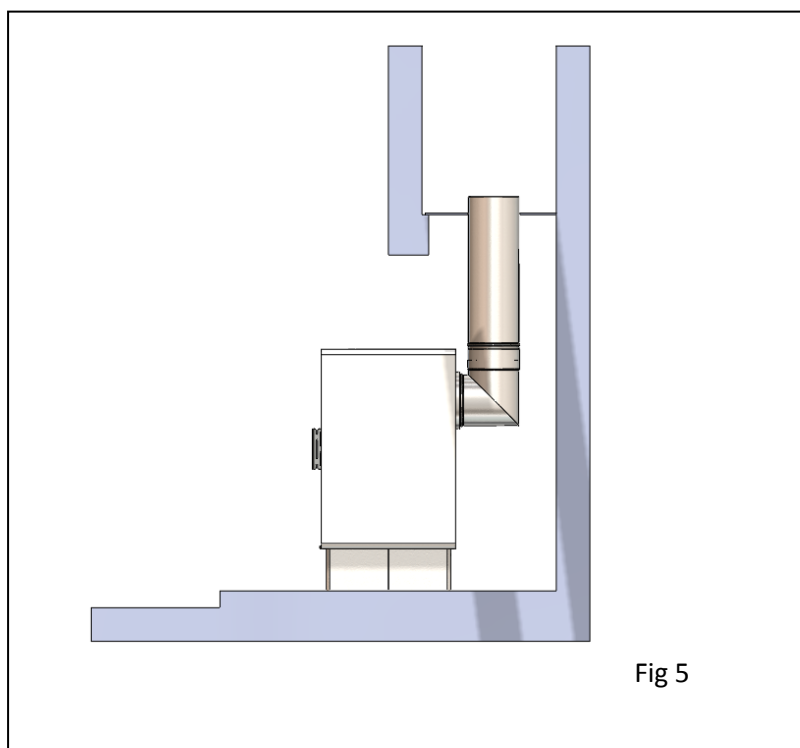

Fig 5
**Figure 5 below shows a typical installation for which you would need:**